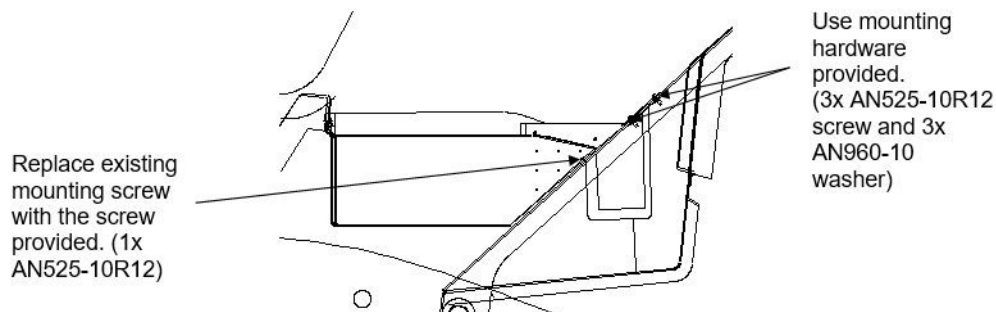

Figure 5. Installation of baggage/bracket tray. Coax and interface module/buzzer not shown.
21. Install the baggage/bracket tray. Refer to Figure 5.